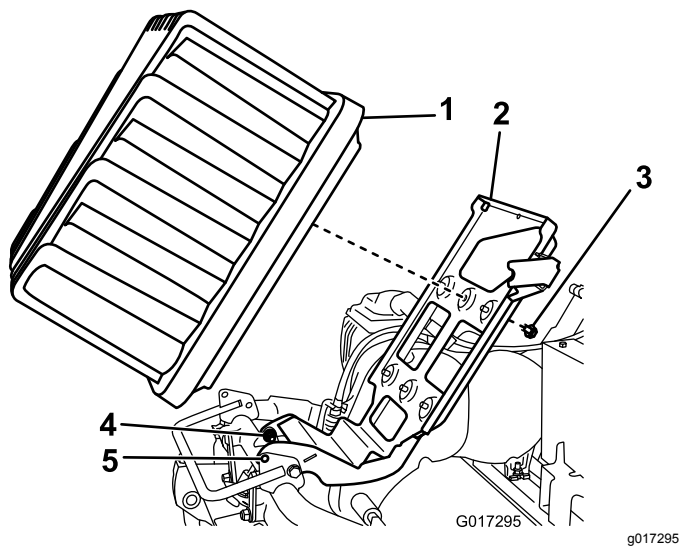

Figure 12
5. Loosen the 2 pivot bolts/nuts a half turn each (Figure 12).
6. Raise the battery platform until the locking holes in the base and frame align (Figure 12).